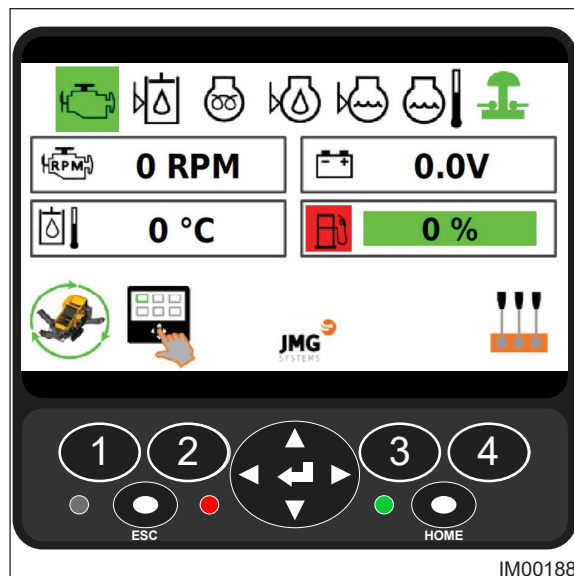

Fig: 7.3 - Home Screen
3. On the Home Screen (Fig: 7.3), press the Activate Hydraulic System button (Item 4).